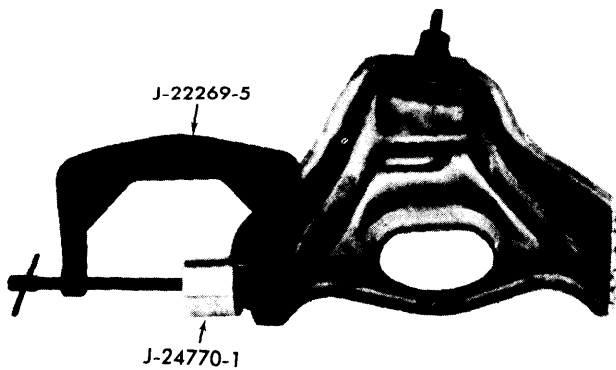

Fig. 3 Installing Upper Control Arm Bushings
**Bushing Installation** – Using same tools used for removal and Adaptor (J-24770-1), install bushings (see Fig. 3). Install bushing nuts loosely. Install upper control arm, and tighten bushing nuts.